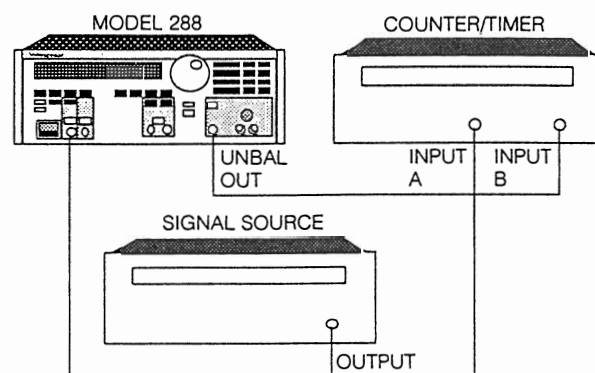

Figure 2-9. Phase Angle Measurement
2. Connect the Model 288 and test equipment as shown in figure 2-9.